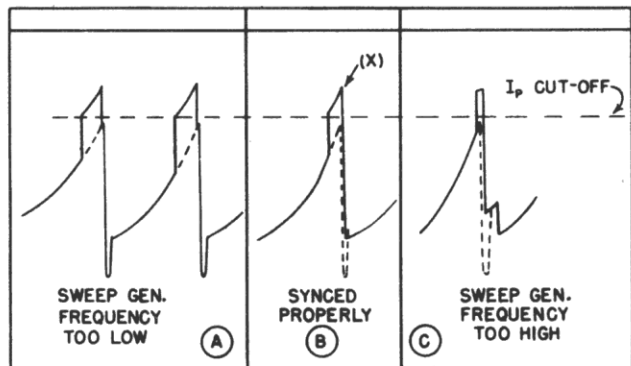

Fig. 7. A.F.C. Waveshapes
Referring to Figure 7, the (B) curve shows a sync pulse phased so that about 50 per cent of the pulse width is riding on top of the integrated sawtooth, while the remainder of the pulse after point (x) falls down into the trough, making the conducting portion have a width which is an average between curves represented by (A) and (C). If each successive sync pulse falls in the same phase relation as shown in curve (B), the Horizontal Hold control which controls the amount of current flow through V12A is set so that this phase relation does not change. This would cause the sweep generator V12B to be running at the same frequency as that of the transmitted signal. Under this condition, if the sweep generator tends to run slower than the incoming sync signal, the conduction period will be made longer through tube V12A because the pulse will move forward in relation to the integrated sawtooth wave with a result as shown in Figure 7 (A). It will be noted that the conduction pulse is of greater duration (wider) than in curve (B). Therefore, tube V12A will conduct for a greater period of time, thus raising the positive potential across R50. This greater conduction period causes the sweep generator to speed up until it attains the condition in (B). Likewise, if the sweep generator is operating at too high a frequency, the pulse will advance along the integrated sawtooth wave until a large portion of it falls down into the trough of the waveshape, as shown in Figure 7 (C), with the resultant shortening (narrowing) of the conducting pulse. This causes the frequency of the sweep generator to be reduced until the condition in Figure 7 (B) is again restored.